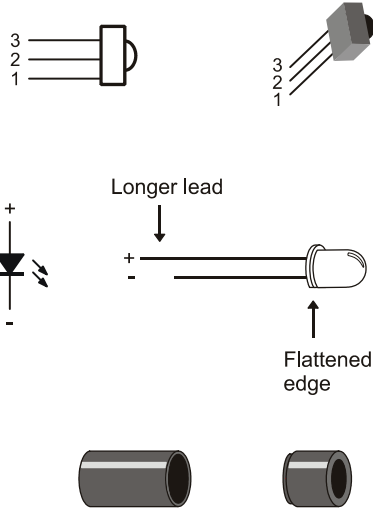

Figure 7-4
- ✓ Gather the parts in the Parts List using Figure 7-4 to help identify the infrared receivers, LEDs, and shield assembly parts.